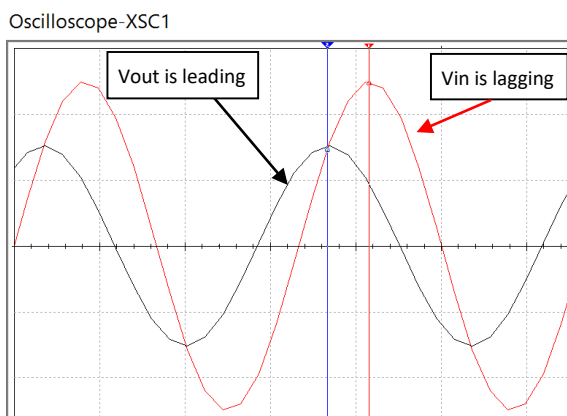

Figure 3.2: Scope plot of the circuit in Example 3.1
*Example 3.1) Verify the output ( $V_{out}$ ) for the circuit in Figure 3.1 by finding the total impedance and using Ohm’s Law. Go to Figure 3.2 to see the oscilloscope plot of the waveforms*